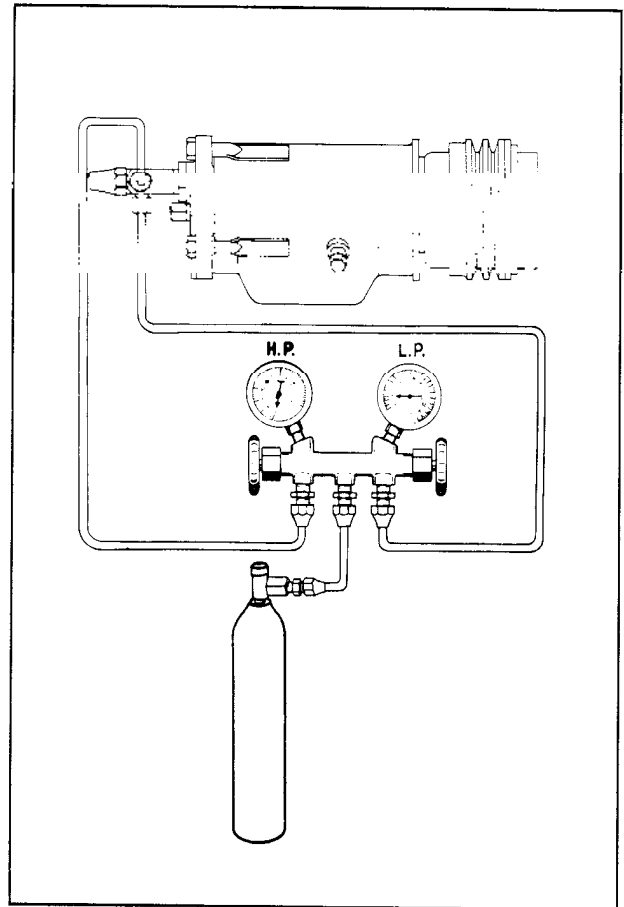

Fig. 14-58 Adding Refrigerant Partial Charge
3. Remove both compressor gauge outlet fitting caps and install the gauge hoses on the fittings. (Fig. 14-58)